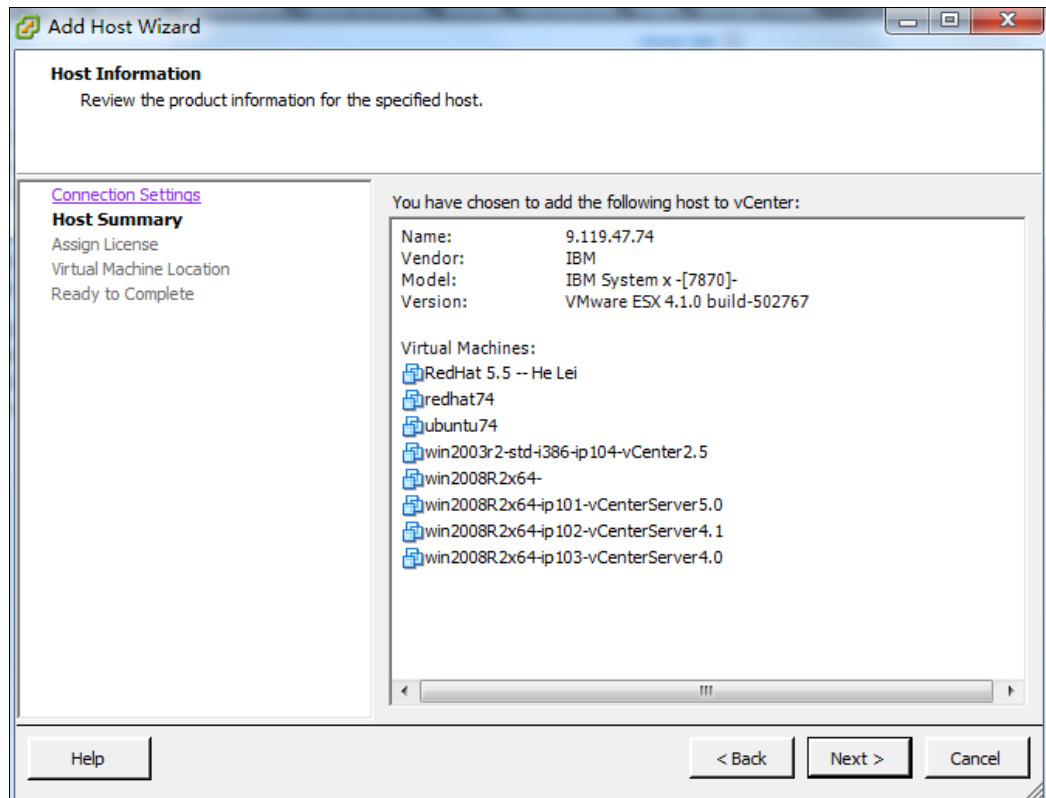

Figure 3-26 Add Host Wizard: Host summary
7. vCenter discovers VMs that are running on the host and displays the details of each host server, as shown in Figure 3-26. Click **Next** to enter the license key. Click **Next** again.